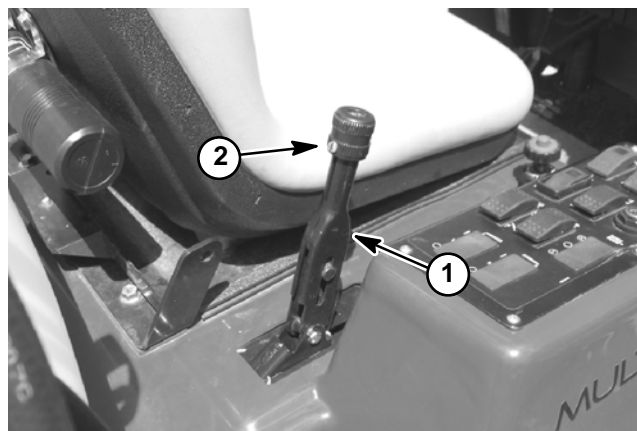

Figure 7
4. Loosen set screw on parking brake control lever knob (Fig. 7). Turn knob on parking brake lever counter-clockwise all the way to loosen brake cables.